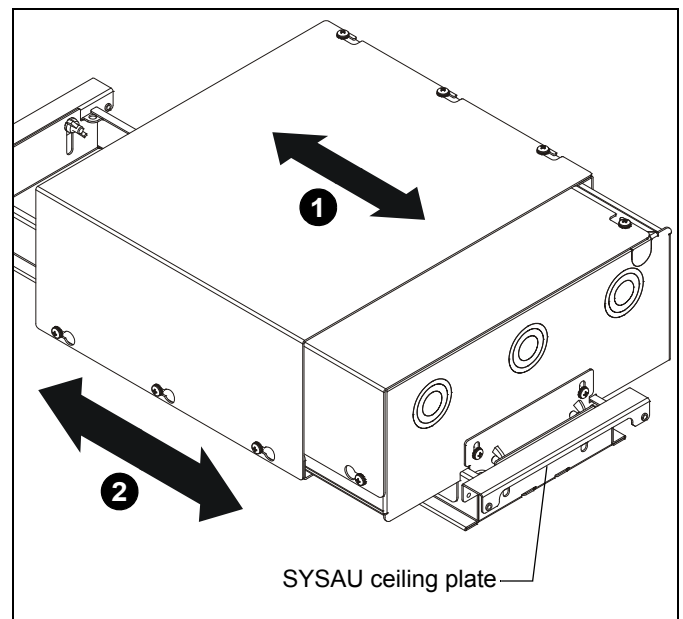

Figure 8
1. The CMA474 may adjust in length, as required. (See Figure 8)
2. The CMA474 may also be located in various locations on the SYSAU ceiling plate. (See Figure 8)